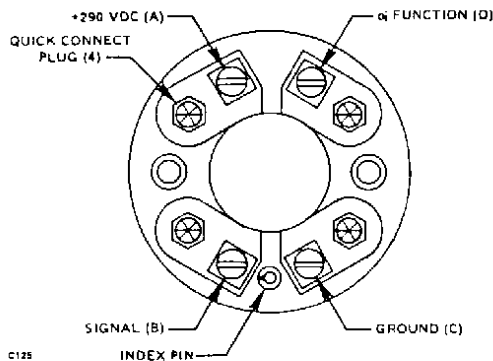

Figure 19—Terminal Block
3. Attach the A-, B-, C- and D-leads to the screw connectors on the terminal block. See Figure 19 for identification of the screw terminals. If the shielded cable